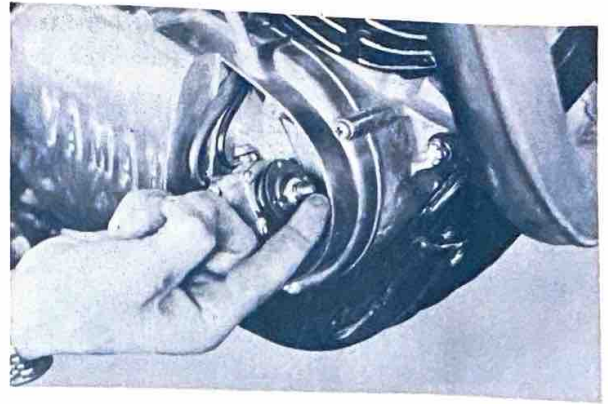

Fig 2-3-4
- 2) Install a 0.1mm adjustment shim where the adjustment plate was. (Fig. 2-3-4)